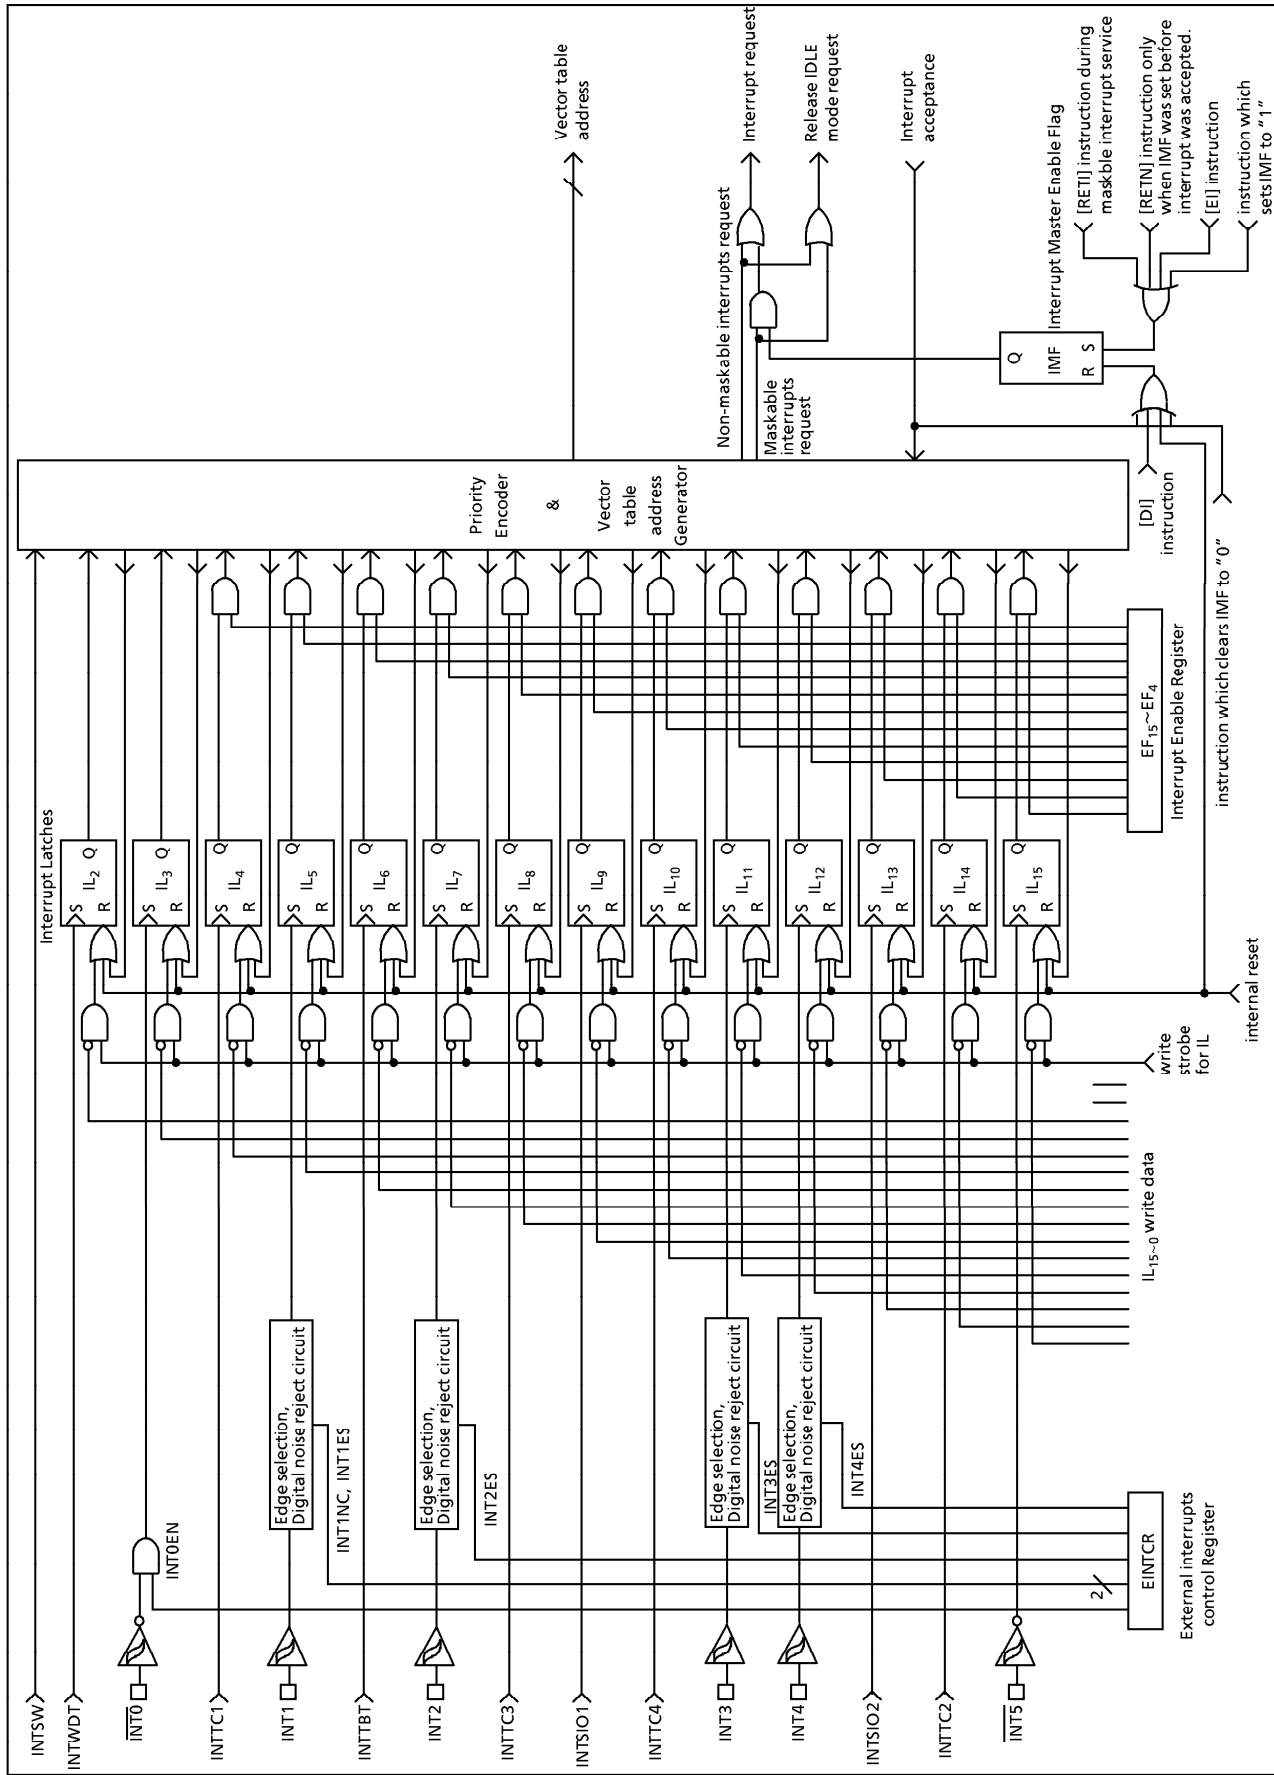

Figure 1-23. Interrupt Controller Block Diagram
The interrupt latch is set to "1" when an interrupt request is generated and requests the CPU to accept the interrupt. The acceptance of maskable interrupts can be selectively enabled and disabled by the program using the interrupt master enable flag (IMF) and the individual interrupt enable flags (EF). When two or more interrupts are generated simultaneously, the interrupt is accepted in the highest priority order as determined by the hardware. Figure 1-23 shows the interrupt controller.